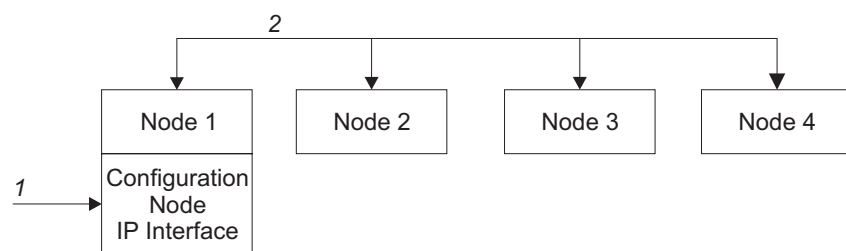

Figure 7. Configuration node
Figure 7 shows an example clustered system that contains four nodes. Node 1 has been designated the configuration node. User requests (1) are handled by node 1.